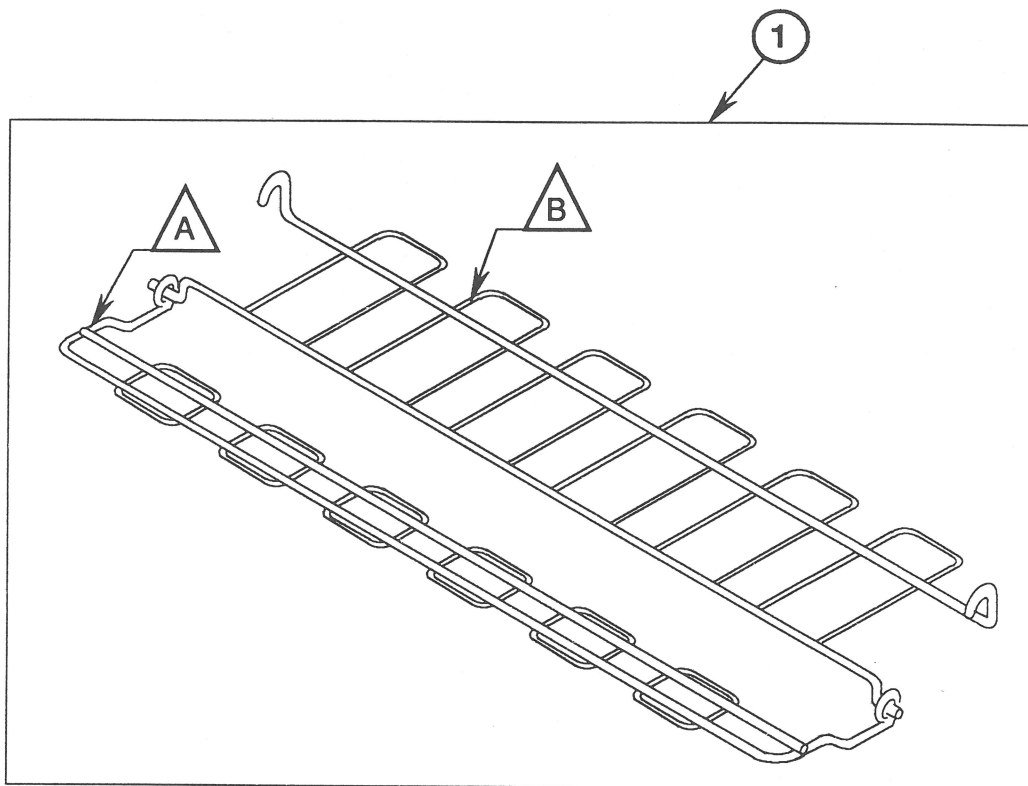

FIGURE 13
□ WIRE FORM ASSEMBLY (Figure 13)